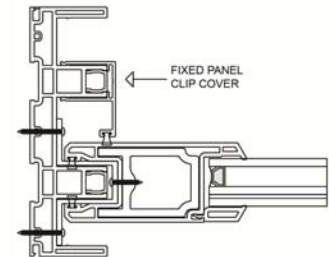

Figure 24c
27. Snap the fixed panel clip cover (Item 16) in to place covering the open frame channel (Figure 24c).